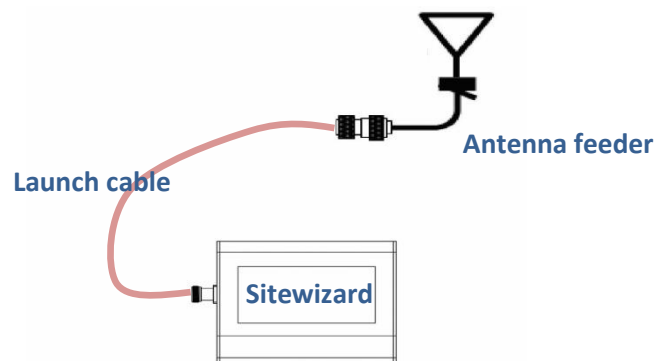

Figure 37: SiteWizard VSWR Measurements
1. After calibration, connect the other terminal of the launch cable to the DUT (Device Under Test) port such as an antenna, RF cables...etc. As shown in **figure 37**.